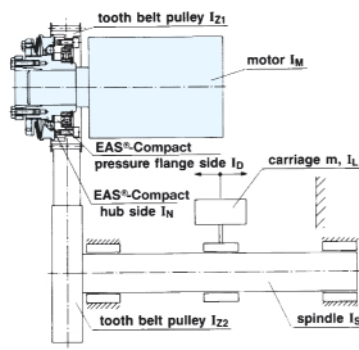

Fig. 2
$$W_2 = \frac{1}{2} \cdot I_2 \cdot \omega_1^2 \quad [\text{J}] \text{ for arrangement as shown in Figs. 2+3} \quad (9)$$